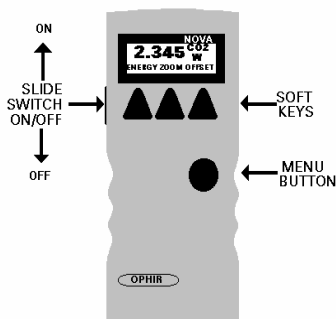

Figure 2.
The Nova is equipped with "soft keys." That is, the functions of the keys change as indicated by the legend above each key. (See Figure 2).
1. Push up the slide switch on the left side of the Nova display. (See Figure 2).